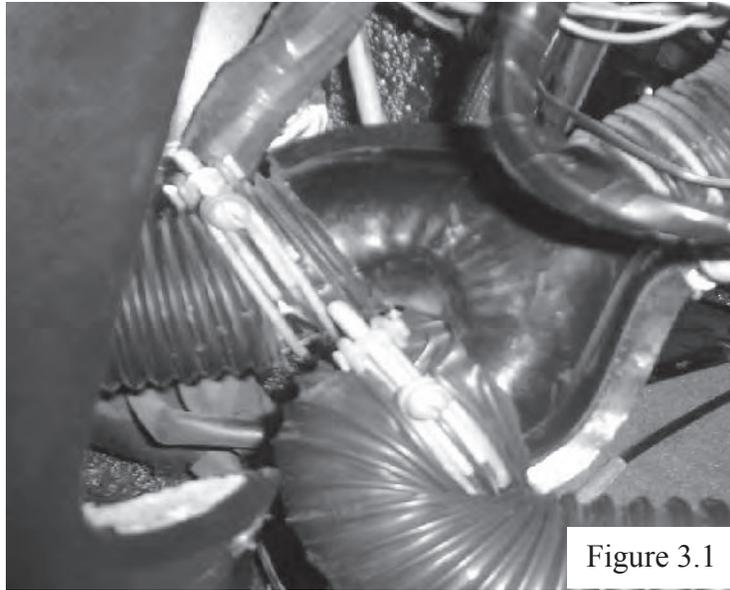

Figure 3.1
- 1) There is a vent “Y” on the driver and passenger side of the vehicle. The “Y” ties into the existing vents in the dash. The hook up on the “Y” is not used with the a/c system. You can remove the “Y” for more room to mount the vent and evaporator system. Figure 3.1